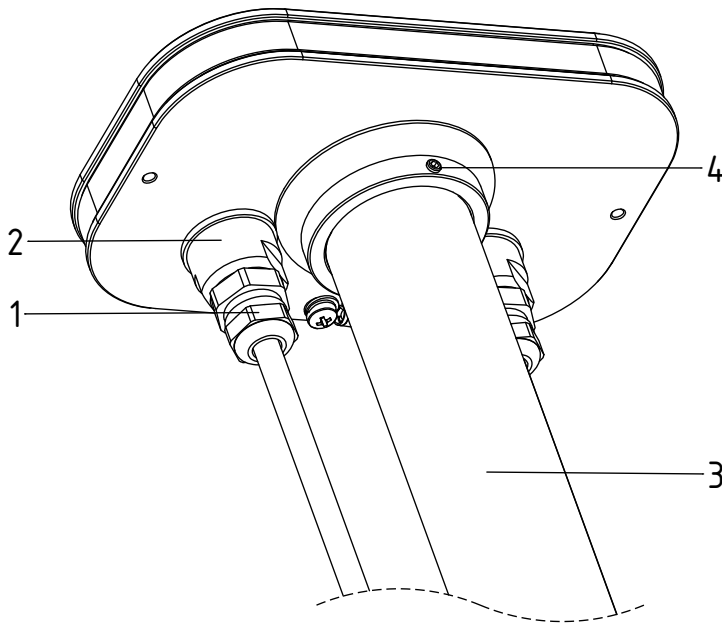

Fig. 6:
- Procell Intense PX1300(see Chapter 3.4.2 "Battery change \(Fig. 6\) / Battery disposal", page 16).
- The batteries may only be replaced if it can be ensured that a potentially explosive atmosphere does not exist at this instant of time (see Chapter 3.4.2 "Battery change \(Fig. 6\) / Battery disposal", page 16).
- Equipotential bonding (PA) shall be established along the entire cable run of the measuring circuit (see Chapter 4 "Operation", page 21).
- To connect the cable, first loosen the cap nut (1) at the gland, then unscrew the adapter with the cable gland (2), see Fig. 6.
### 3.4.2 Battery change (Fig. 6) / Battery disposal